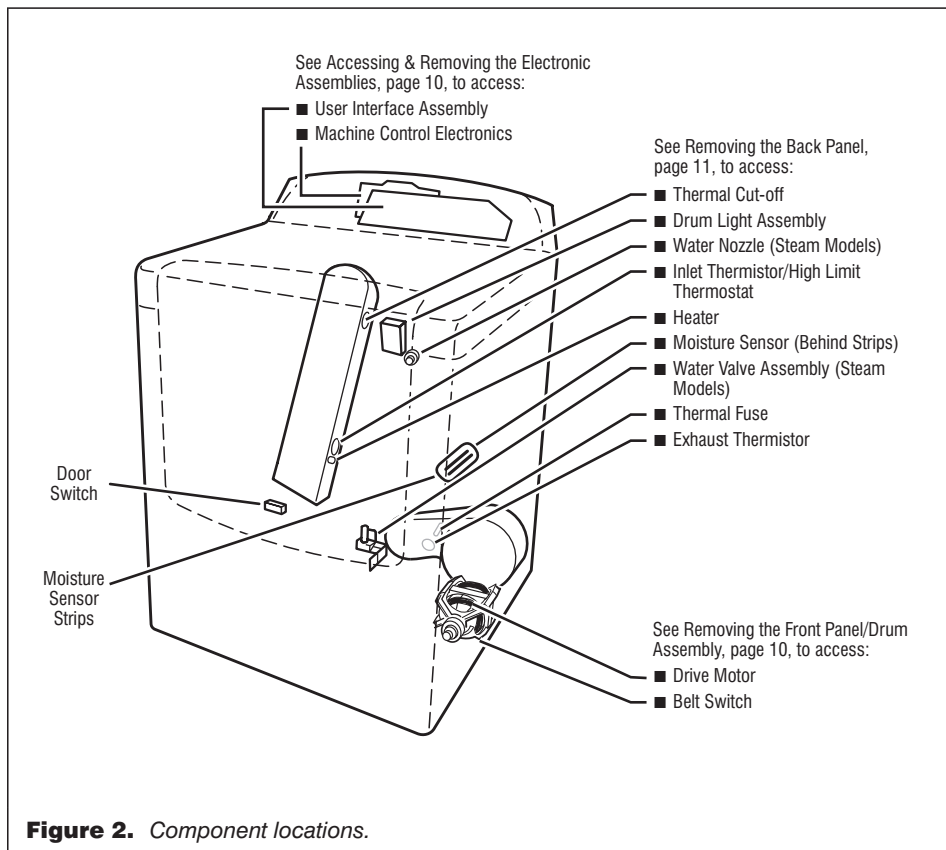
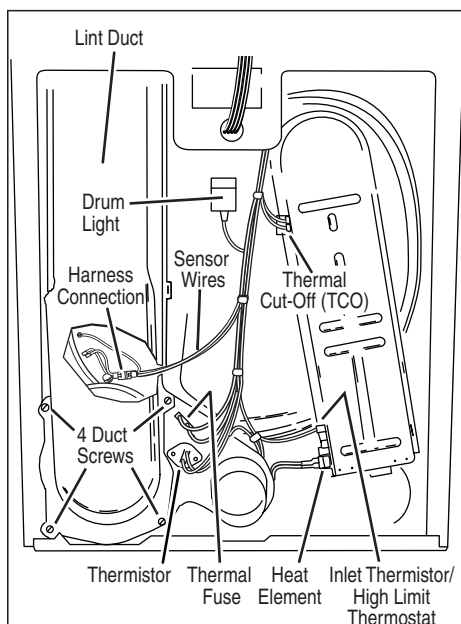

Figure 2. Component locations.
Figure 9. Thermal components, viewed from rear.
Some tests will require accessing components. See figure 2, page 4 for component locations.
Locate the components using figure 2, page 4; and figure 9, below.
- Check wire connections at the machine control electronics and thermistor. See Accessing & Removing the Electronic Assemblies, page 9; and for thermistor location, figure 9.
- Check wire connections at the machine control electronics and inlet thermistor. See Accessing & Removing the Electronics Assemblies, page 9, and for inlet thermistor location see figure 9, page 6.
- Check the resistance of the inlet thermistor. See figure 9, page 6 for location.
- 2.** Access the thermal fuse by first removing the back panel. See Removing the Back Panel, page 10; and for thermal fuse location see figure 9, page 6.
- 3.** Using an ohmmeter, check the continuity across the thermal cut-off. See figure 9, page 6, for location.